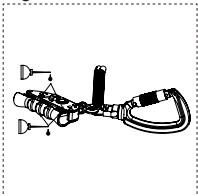

Fig. 9
- Excessive wear is identified on the Chock, as determined by a competent person Fig. 9